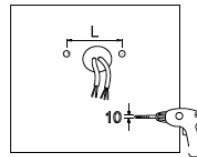

Fig. 18
1. Mark and drill holes for bracket (Fig. 18).